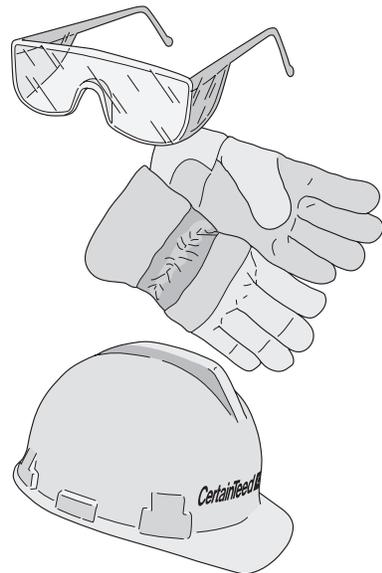
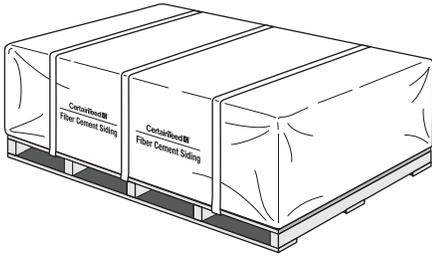

Fig. 3.1 **PROPER STORAGE**
Fig. 3.2 **IMPROPER STORAGE**
- ▶ Use the plastic bonnet provided to keep the product dry and prevent moisture from settling on the siding (Fig.3.1, Fig. 3.2).